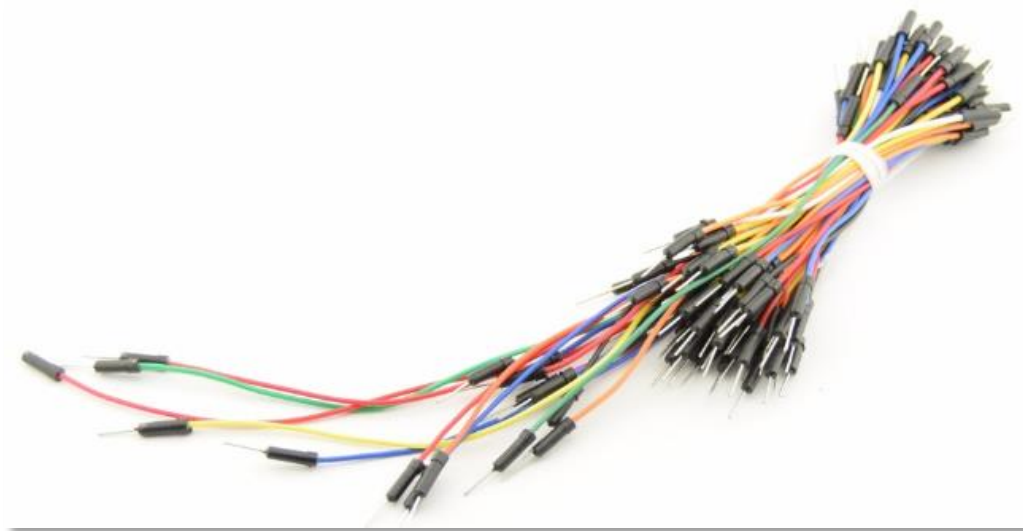

Figure 4, connection wires
- b.** Jumpers, do not order too few, they are also relatively cheap, fig.4.